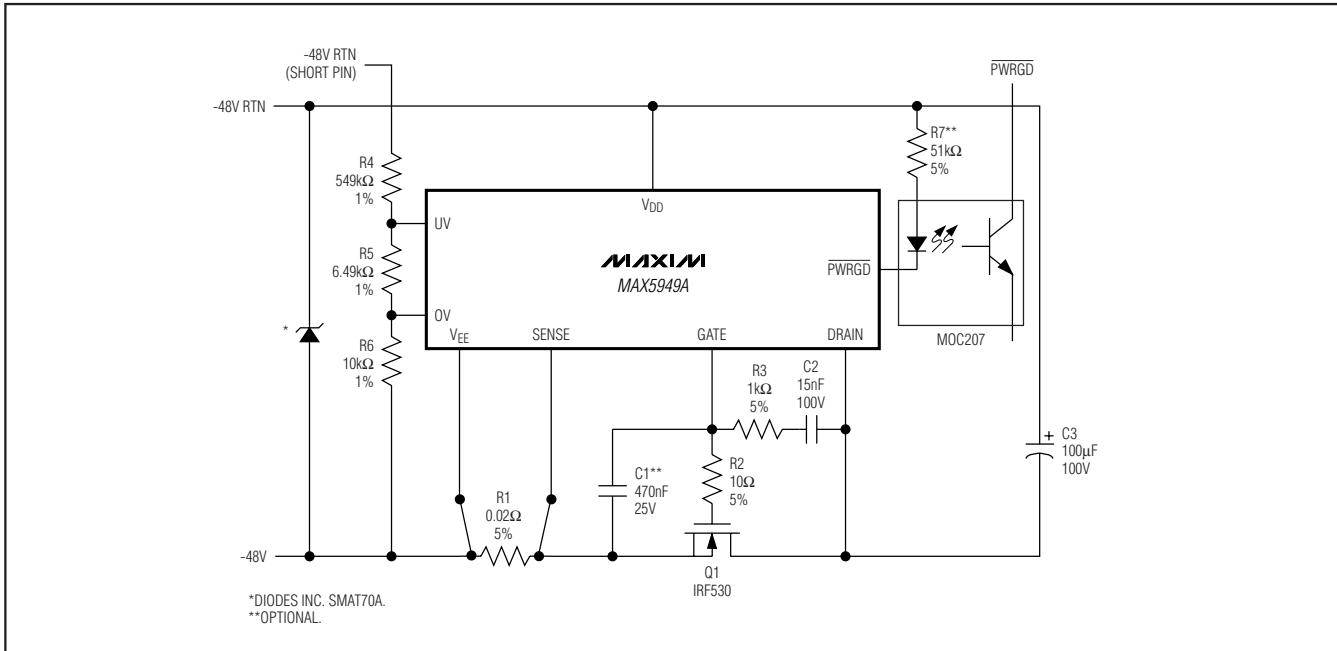

Figure 15. Using \overline{PWRGD} to Drive an Optoisolator
The \overline{PWRGD} signal can also be used to turn on an LED or optoisolator to indicate that the power is good (Figure 15) (see the *Component Selection Procedure* section).
- If an optocoupler is utilized as in Figure 15, determine the LED series resistor: